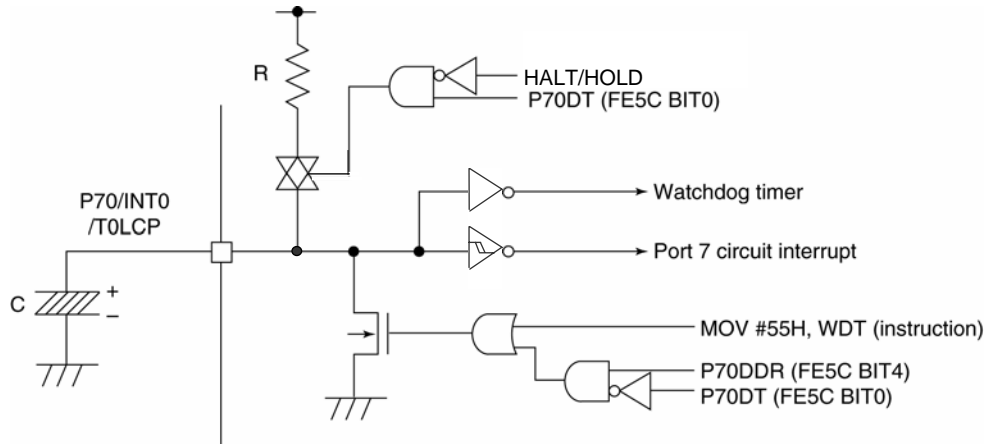

Fig. 4.6.3 Sample Application Circuit with a Pull-up Resistor
- 3) The external resistor to be connected to the watchdog timer can be omitted by setting bits 4 and 0 of the P7 register (FE5C) to 0, 1 and connecting a pull-up resistor to the P70/INT0/T0LCP pin (see Figure 4.6.3).